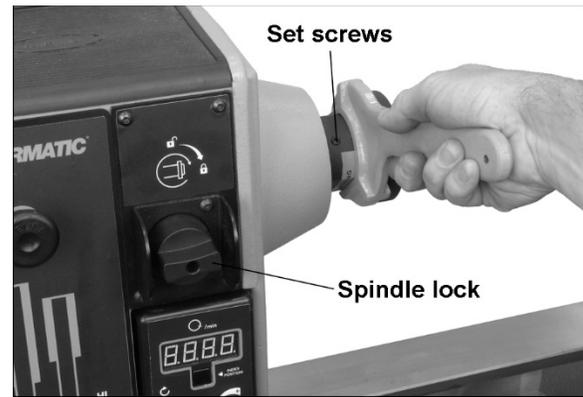

Figure 8-8: faceplate
3. Rotate spindle lock switch (Figure 8-8) and rotate handwheel slightly until lock engages with spindle.
WARNING If at any time you will be *reversing* spindle rotation, make sure the two set screws in the face plate are tight! One of these is shown in Figure 8-8. Failure to do this may cause face plate to loosen from headstock spindle.
5. To *remove* face plate, loosen the two socket set screws (Figure 8-8). Engage spindle lock switch and turn face plate counterclockwise with face plate wrench, as shown.
WARNING When turning with a face plate, make sure both set screws on the face plate are tight (see Figure 8-8) before reversing spindle. Failure to comply may cause face plate to spin loose from spindle.